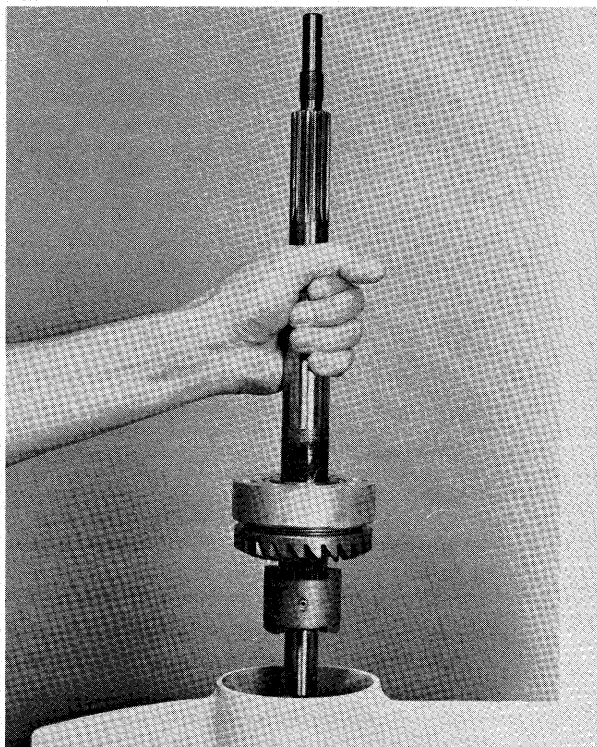

Figure 27—Installing Prop Shaft Assembly
- E. Install prop shaft assembly in gear housing as shown in figure 27. (Shift yoke does not have to be installed at this time.) Prop shaft bearing cage should be seated in its counter bore so that the retaining ring grooves are completely exposed.